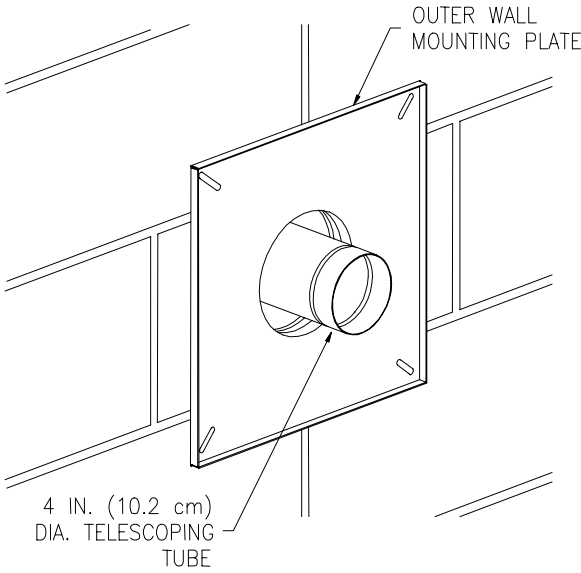

Figure 16
7. From outside the building, slide the six (6) inch (15.2 cm) diameter telescopic tube(s) through the opening in the wall until the outer wall mount plate is flush with the wall. (See Figure 16).